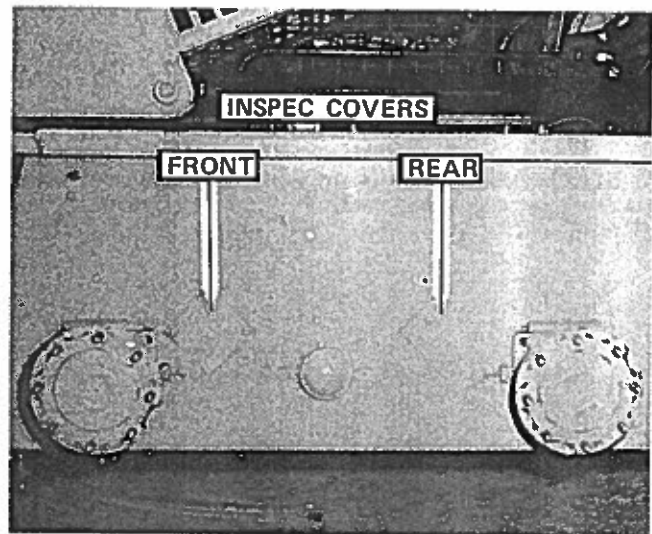
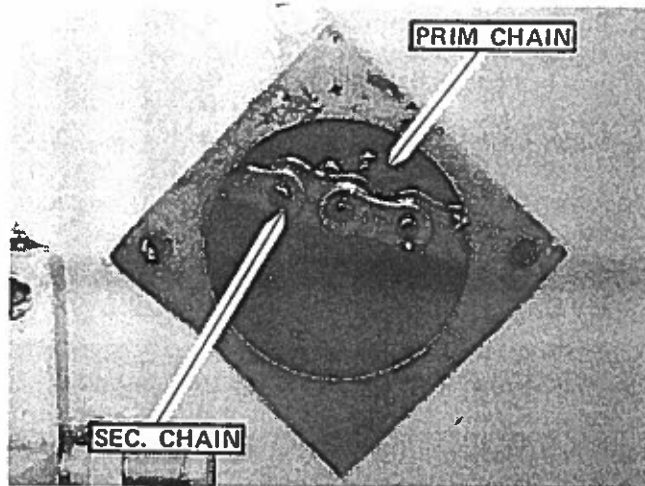

FIGURE 49
FIGURE 52
To check the oil level, remove the tire, preferably the rear one, from each side. Then remove the exposed inspection cover, see **FIGURE 49**, and simply measure the depth of oil in the bottom of the chain case.
1. Remove the front wheels, and inspection covers, see FIGURE 49. Both the primary and secondary chains will be exposed, as shown in FIGURE 52.
SECONDARY CHAIN TENSION CHECK AND ADJUSTMENT (FIGURES 52 & 55)